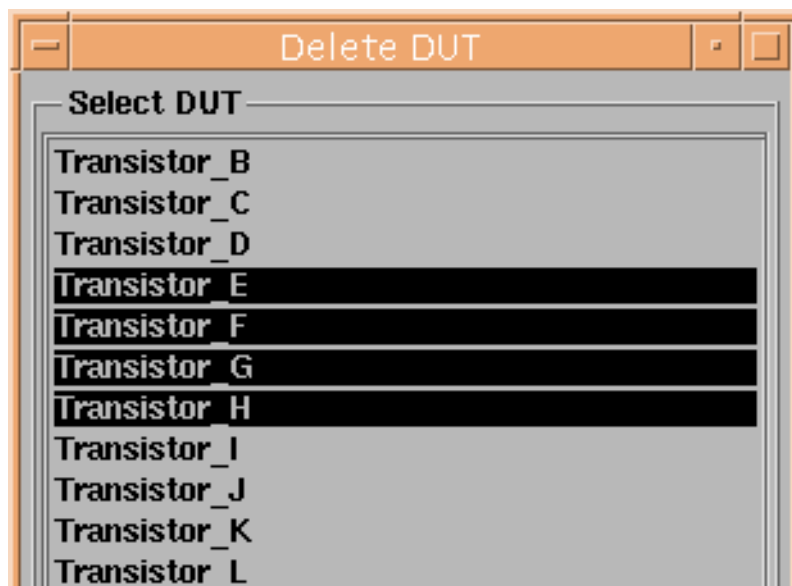

Figure 1-20. Delete DUTs form
- Click the **Delete** button on the left side of the form. You will be prompted with a list of DUTs (Figure 1-20). Select the DUTs to be deleted and click **Delete** on the Delete DUT form. A prompt dialog box appears. Select **OK** if you are satisfied with your choice of DUTs to be deleted.